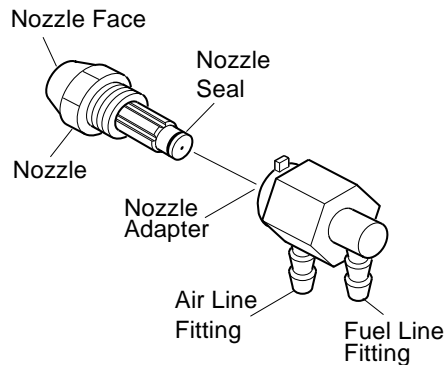

Figure 14 - Nozzle and Nozzle Adapter
6. Carefully remove nozzle from the nozzle adapter using 5/8" socket wrench (see Figure 14).
9. Replace nozzle into nozzle adapter until nozzle seats. Tighten 1/3 turn more using 5/8" socket wrench (40-45 inch-pounds). See Figure 14.